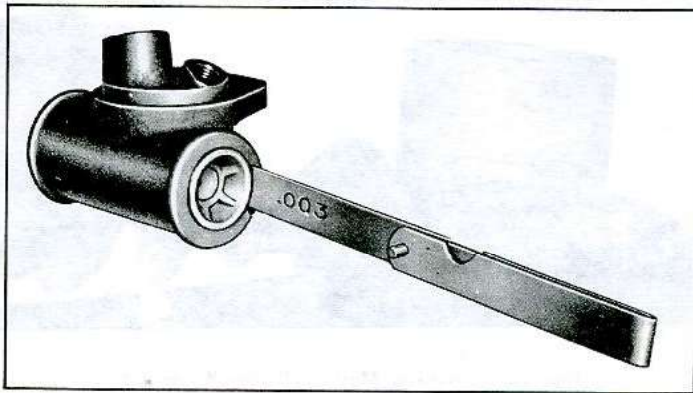

Fig. 25—Checking Wheel Cylinder Piston Fit
3. Check fit of the piston in the cylinder bore, using a feeler gauge (fig. 25). This clearance should be from .002"-.004". If clearance exceeds .004", replace cylinder.